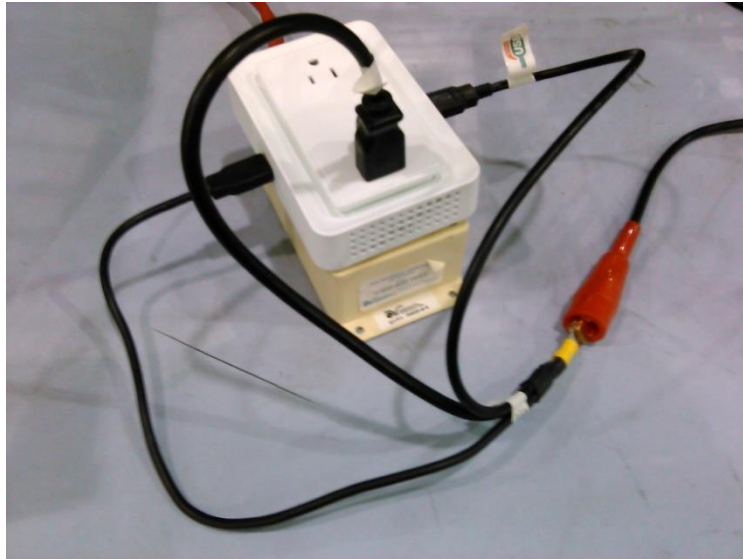

Figure 1. Ecovent HiPot Cable Connected to Wall Sensor
2. Ecovent HiPot Cable (see Figure 1)
1. Connect the Ecovent HiPot cable as shown in Figures 1 & 3.